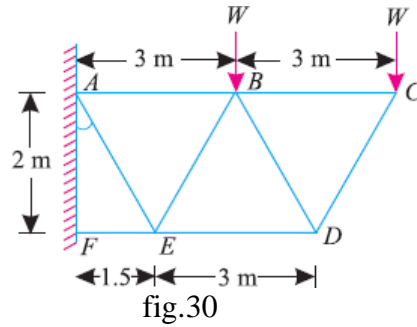

fig.30
4. A cantilever truss is loaded as shown in Fig.30. Find the value W, which would produce the force of magnitude 15 kN in the member AB.